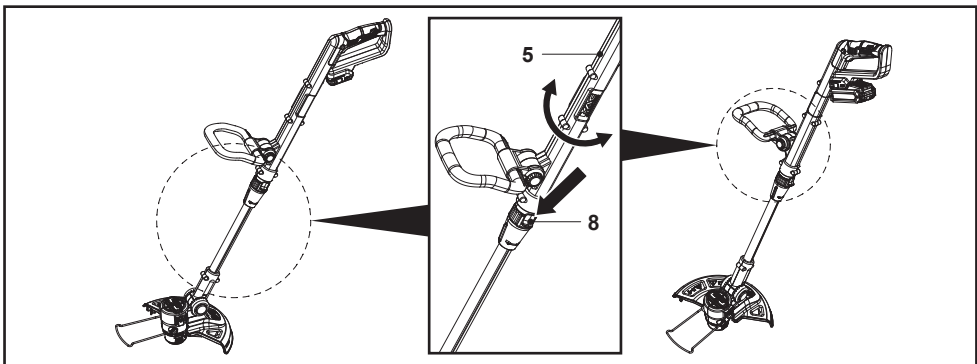

Fig. 6
1. Push down the angle adjustment lock (8) (Fig. 6).
2. Turn the upper pole (5) by 90° (Fig. 6).
3. Release the angle adjustment lock (8).
4. Make sure that the upper pole (5) locks in place.